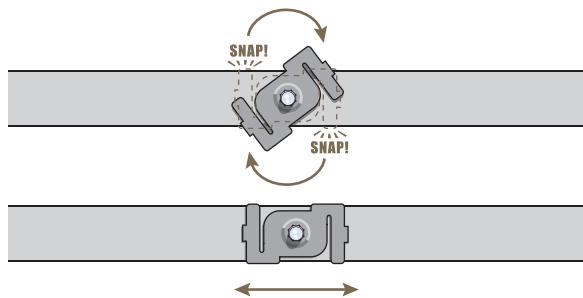

Figure 4-5. Securing the clip to the track and repositioning it if necessary.
3. Twist the track clip until it snaps onto the ceiling track, as shown in Figure 4-5. You can then slide the clip along the track to reposition it if necessary.